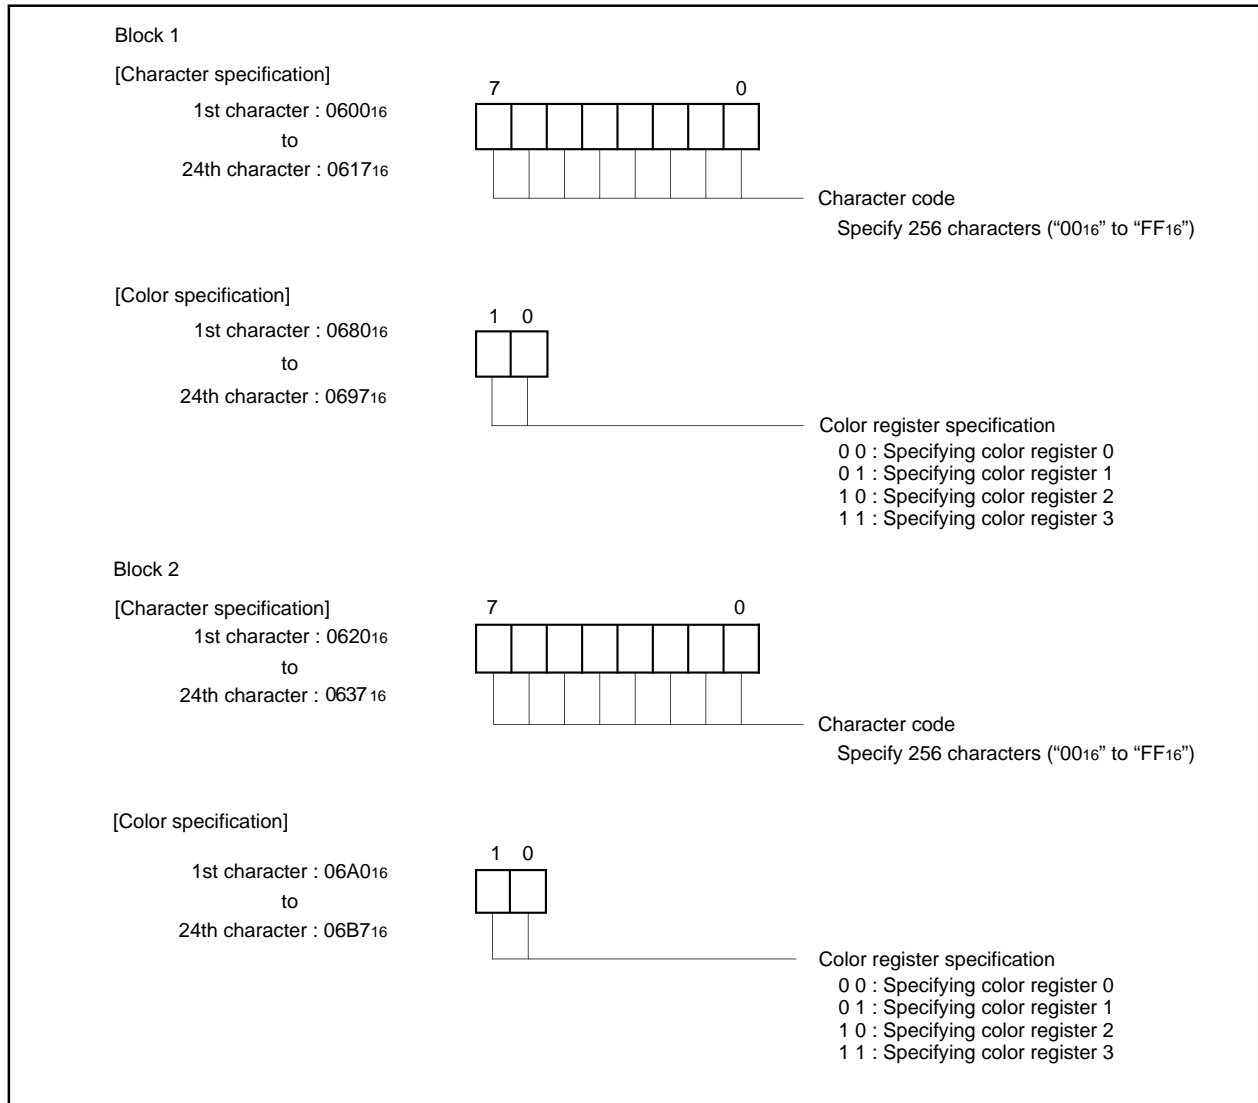

Fig. 45. Structure of CRT display RAM
For example, to display 1 character position (the left edge) in block 1, write the character code in address 060016 and write the color register No. to the low-order 2 bits (bits 0 and 1) in address 068016. The color register No. to be written here is one of the 4 color registers in which the color to be displayed is set in advance. For details on color registers, refer to (5) Color Registers. The structure of the CRT display RAM is shown in Figure 45.